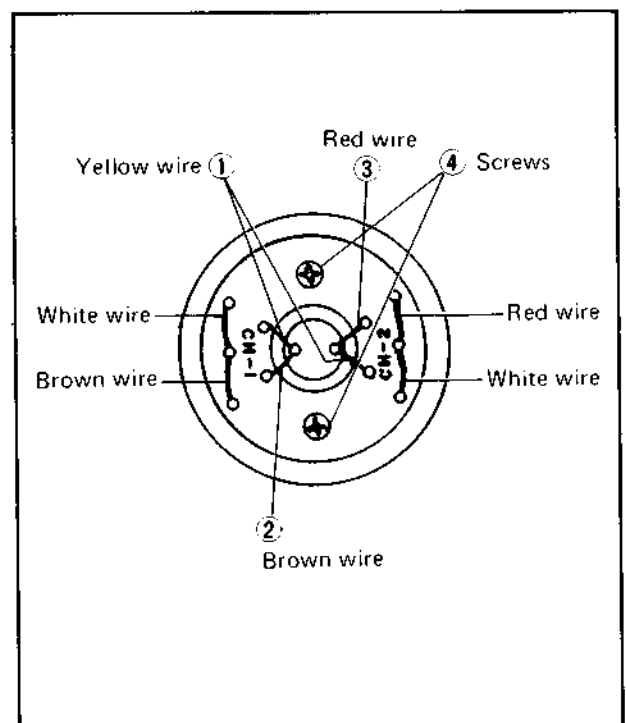

Fig. 5-26 Replacement of video head assembly
1. Unsolder yellow wires (1), then unsolder the brown (2) and red wires (3).
2. Remove the two screws (4), then pull-up the upper drum assembly.
3. Install the new head assembly and solder the wires as shown in Fig. 5-26.
4. Fasten two screws (4).